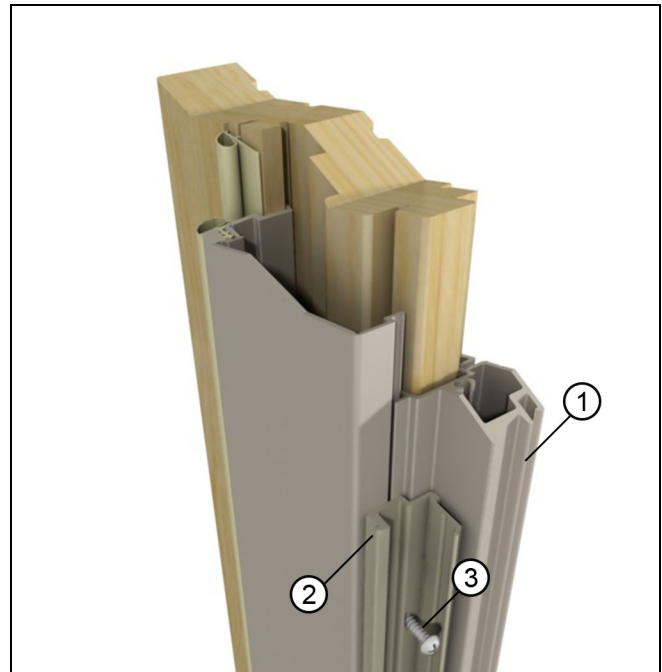

Figure 6
2. Make sure the jamb adapter is seated and tight against the jamb and part stop. Using the pre-drilled holes in the adapter as a guide, drill 1/16" (2) pilot holes. Use the #4 x 3/4" self tapping pan head screws to fasten the jamb adapter to the cladding through the pre-drilled holes in the jamb adapter. See Figure 6.